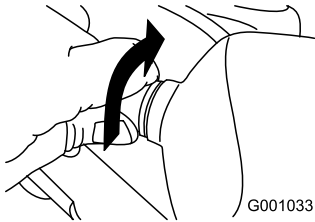

Figure 46
2. Turn the base of the bulb counterclockwise until it stops (Figure 46).